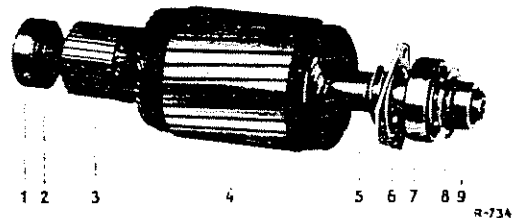

Fig. 15-13/2
9. If the ball bearings have to be replaced, use a suitable puller to pull the ball bearings off the armature shaft, paying attention to the splash disk, the cover disk, and the spacer ring (Fig. 15-13/2).